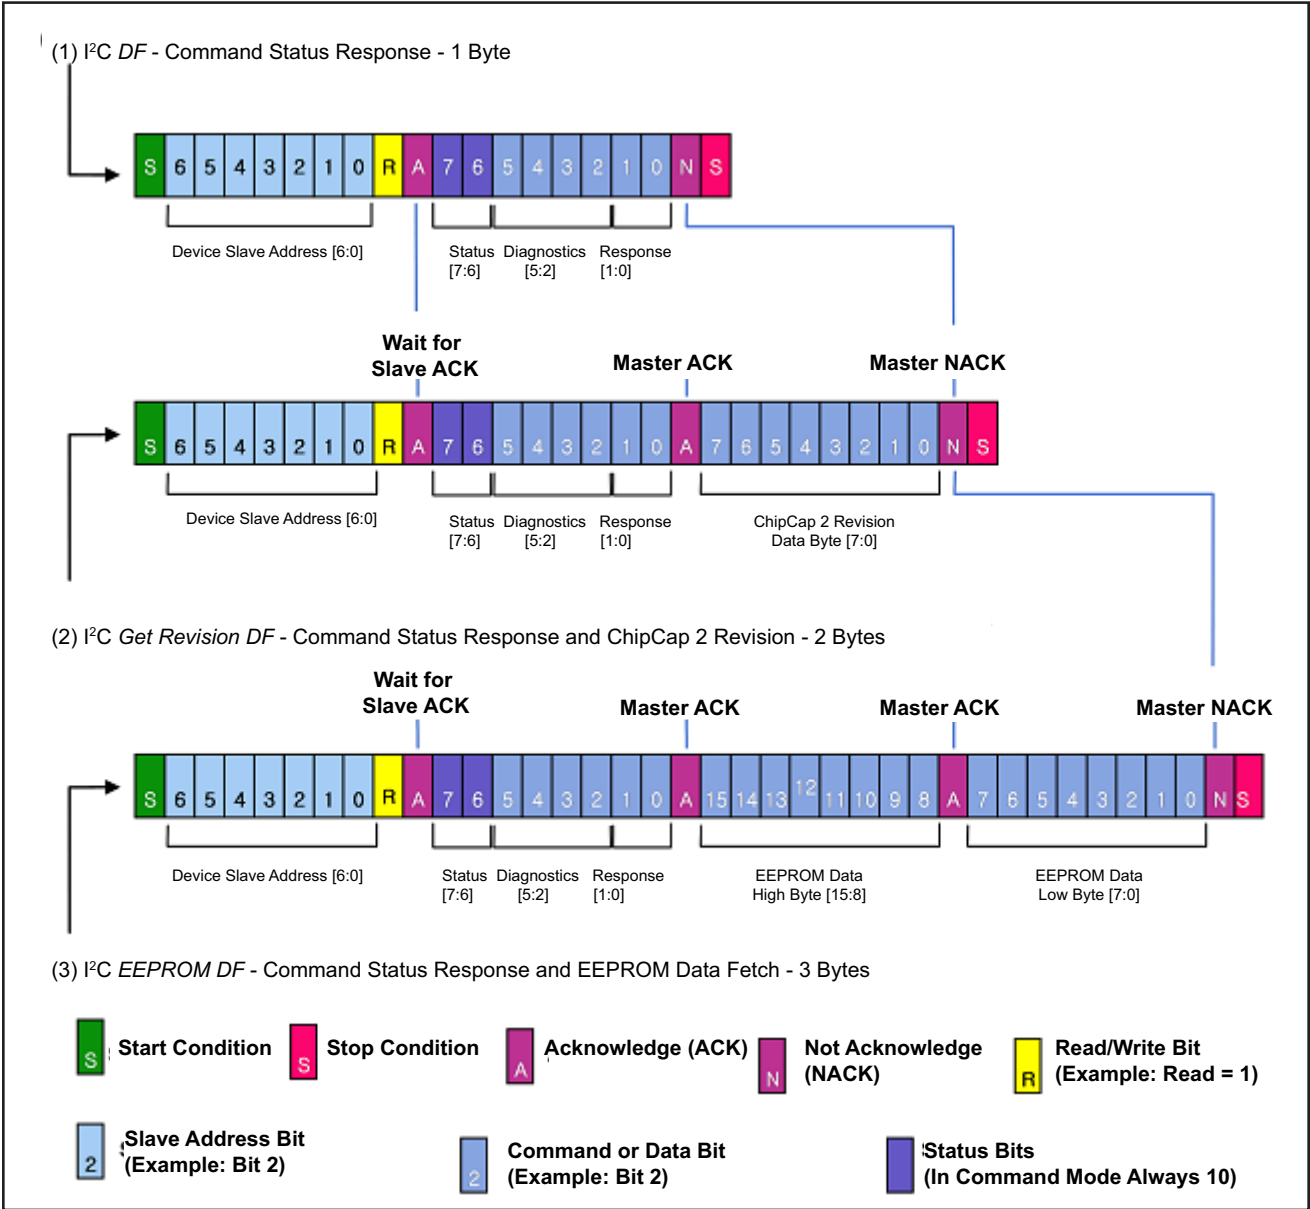

Figure 18: Command Mode Data Fetch
After a command has been sent and the execution time defined in Table 11 has expired, an I²C Data Fetch (DF) can be performed to fetch the response. As shown in Figure 18 on page 24, after the slave address has been sent, the first byte fetched is the response byte.
For all commands except EEPROM Read and Get Revision, the data fetch should be terminated after the response byte is read. If the command was a Get Revision, then the user will fetch a one byte Revision as shown in Figure 18 on page 24, example 2.
The revision is coded with the upper nibble being the letter corresponding to a full layer change and the lower nibble being the metal change number, for example A0. If the command was an EEPROM Read, then the user will fetch two more bytes as shown in Figure 18 on page 24, example 3.
If a Corrected EEPROM Error diagnostic was flagged after an EEPROM read, the user has the option to write this data back to attempt to fix the error. Instead of polling to determine if a command has finished executing, the user can use the Ready pin. In this case, wait for the Ready pin to rise, which indicates that the command has executed. Then a data fetch can be performed to get the response and data (see Figure 18 on page 24).